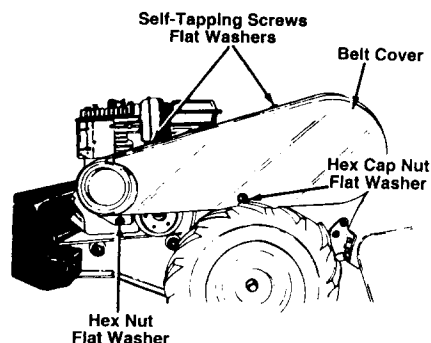

FIGURE 16
2. Remove the belt cover from the left side of the tiller as follows. Refer to figure 16.